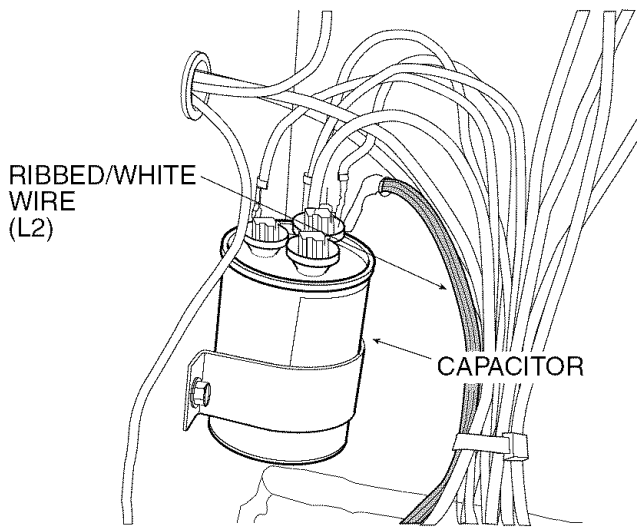

Fig. 4 — Capacitor Wiring
6. Attach ribbed/white wire (L2) from power cord to terminal C on capacitor. See Fig. 4.
10. Attach ribbed/white wire (L2) from power cord to terminal C on capacitor. See Fig. 4.
7. Attach ribbed/white wire (L2) from power cord to terminal C on capacitor. See Fig. 4.